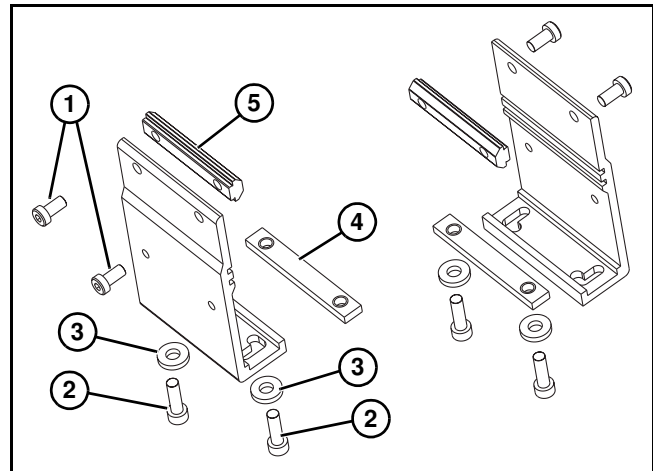
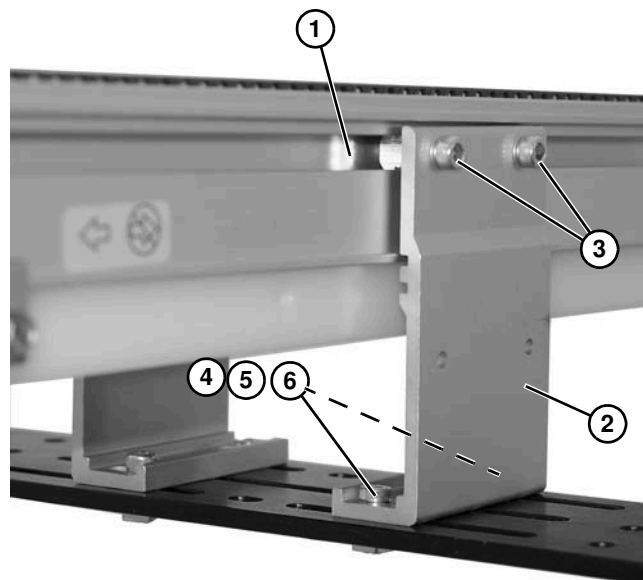

Figure 8
Figure 9
1. Locate brackets. Exploded view shown in Figure 8.
2. Remove screws (Figure 8, item 1 & 2), washers (Figure 8, item 3), connector bar (Figure 8, item 4) and T-bars (Figure 8, item 5) from brackets.
3. Insert T-bars (Figure 8, item 5) into conveyor side slots (Figure 9, item 1). Fasten brackets (Figure 9, item 2) to conveyor with mounting screws (Figure 9, item 3).
4. Fasten brackets to support stand with mounting screws (Figure 9, item 4), washers (Figure 9, item 5) and nuts (Figure 9, item 6).
5. Tighten screws (Figure 9, item 3 & 4) to 60 in-lb (7 Nm).